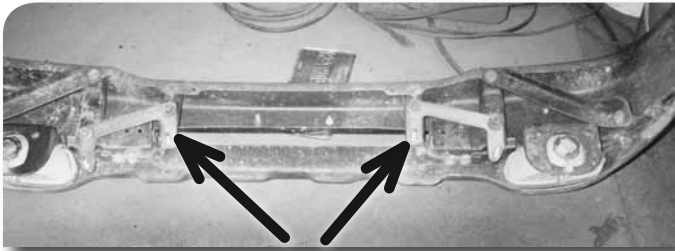

Figure 13
38. Install the front bumper relocation brackets on the front bumper with the studs facing out and fasten with stock nuts Figure 13. Do not tighten at this time.